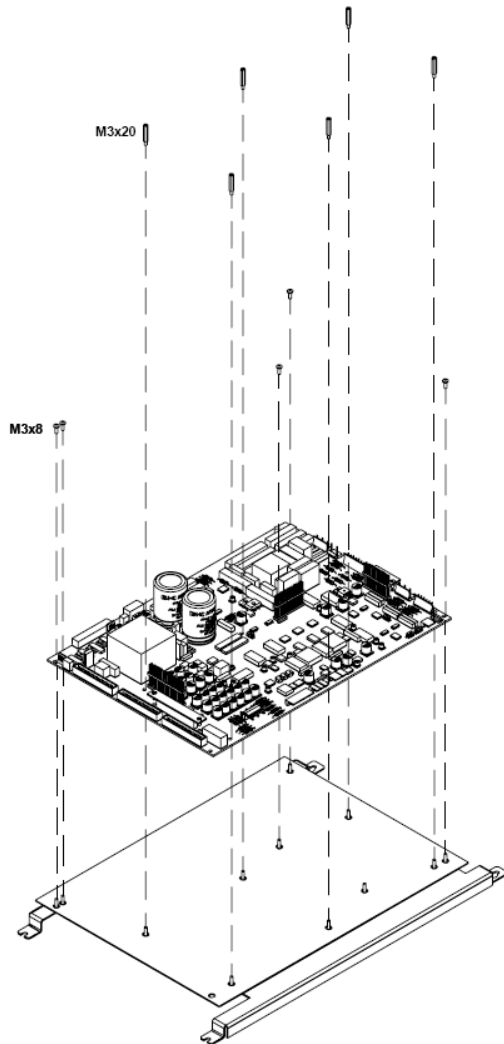

Figure 7.1.8. Disassembly of the power board
- 5) Put the board on the electronic tray, matching the bolts of the tray with the holes of the board (see figure 7.1.8).